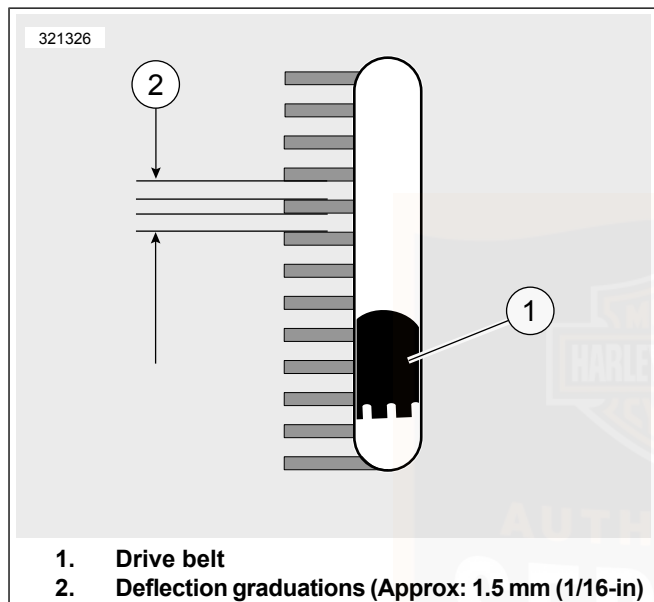

Figure 50. Belt Deflection Window
- a. Slide O-ring (4) to zero mark (3).
- b. Fit belt cradle (2) against bottom of drive belt in line with belt deflection window.
- c. Press upward on knob (6) until O-ring slides down to 10 lb (4.54 kg) mark (5) and hold steady.
- a. See Figure 50. Measure belt deflection as viewed through belt deflection viewing window while holding gauge steady. Each deflection graduation is approximately 1/16 in (1.6 mm).